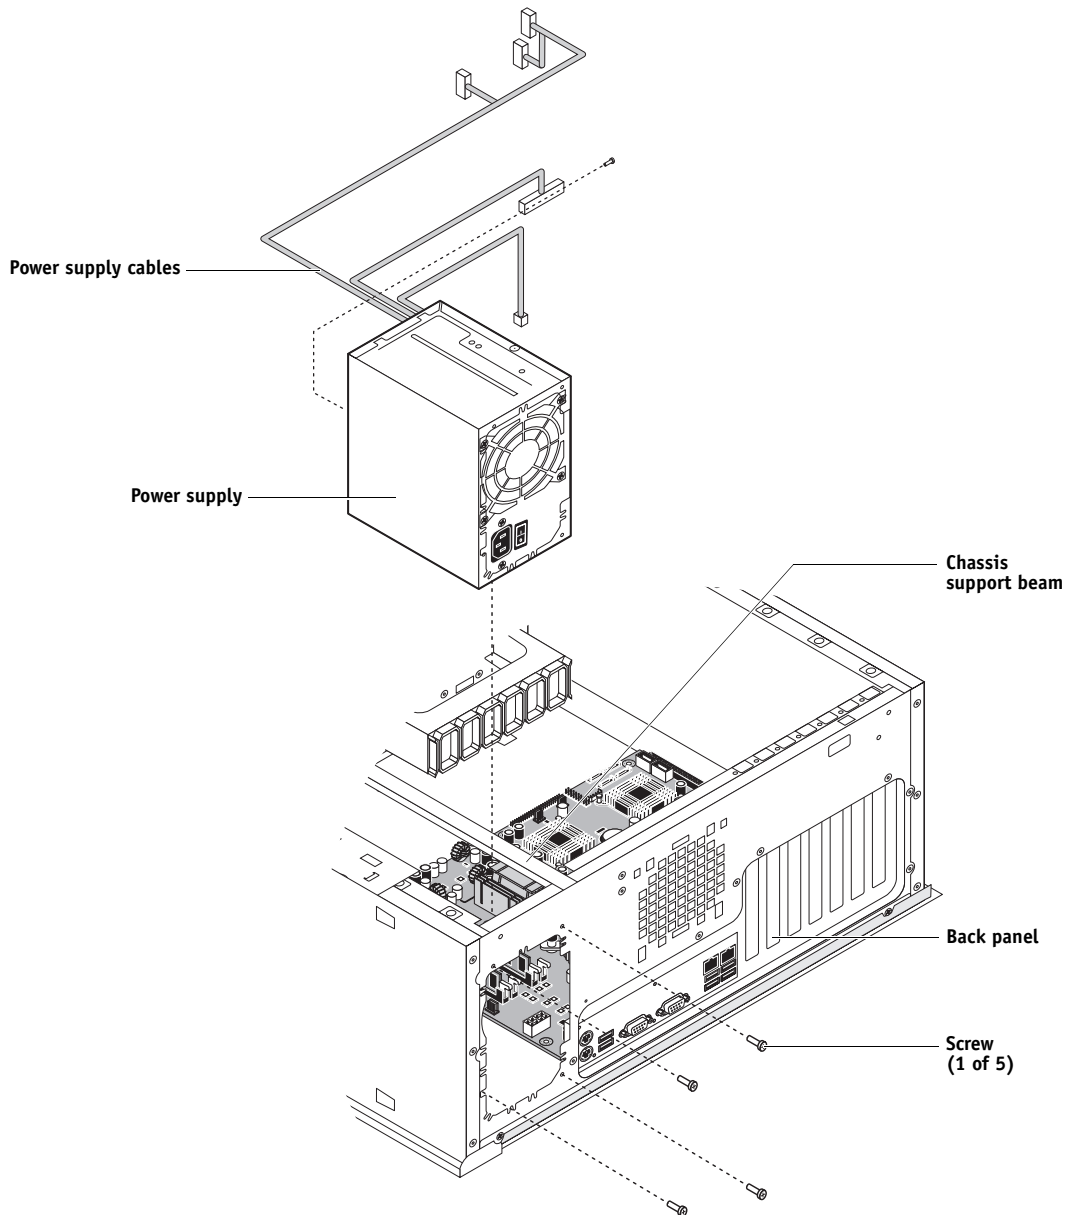

FIGURE 30: Removing/replacing the power supply
- 8. Remove four of the five screws that attach the power supply to the back of the chassis (see Figure 30 on page 91).**
2. Attach the power supply to the chassis with the four screws that you removed earlier (see Figure 30 on page 91).
8. Locate the reusable tie-wrap that you removed earlier and use it to attach the loose section of the power cable to the chassis support beam (see Figure 30 on page 91).